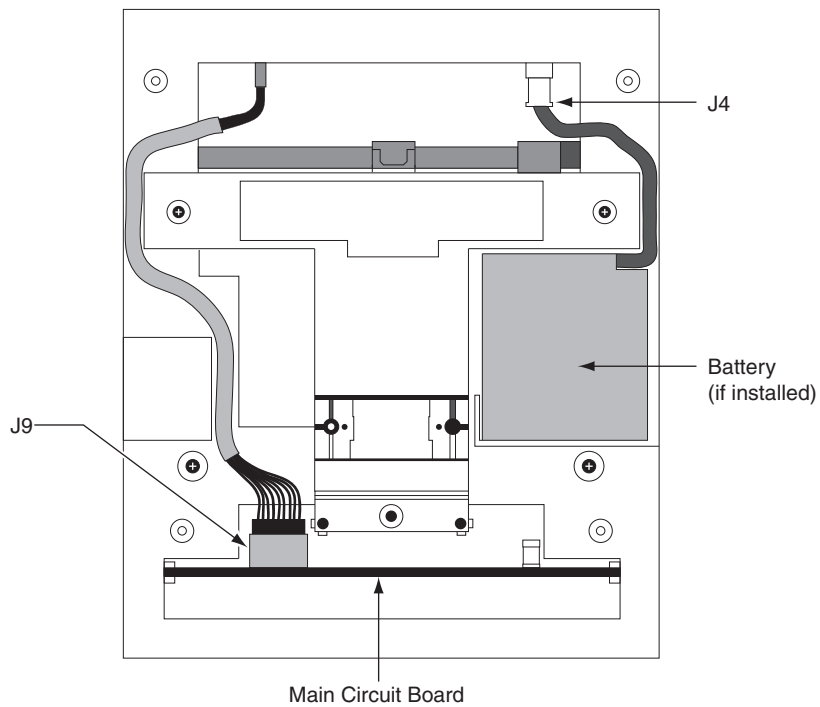

Figure 8
14. Locate the cable that runs from the top panel circuit board to the main circuit board. Connect this cable to J9 on the main circuit board. See figure 8 for cable routing.